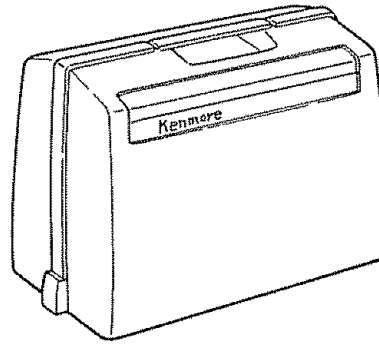

Fig. 3
- Place cover on machine with word "SEARS" on handle facing you. The case slopes in the same direction of the machine (Fig. 3)